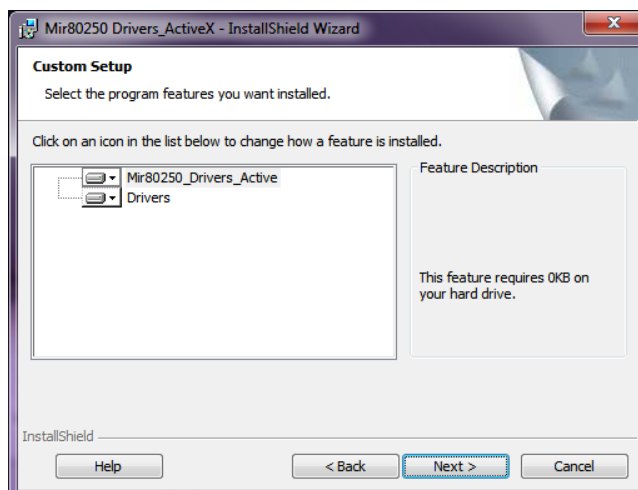

Figure 14: Select Active X Setup
6. Highlight “Mir80350_Drivers_Active” and click “Next” per Figure 14.